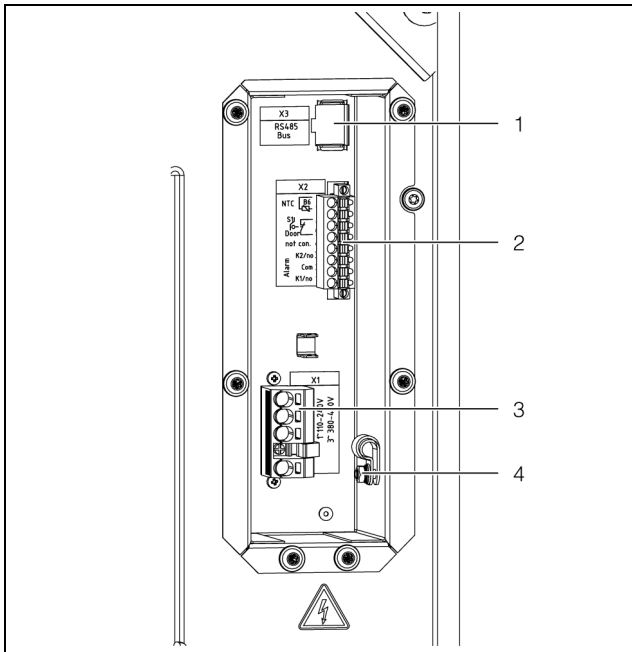

Fig. 34: Connections at rear
- The earth clamp may be used to contact the cable shielding with the enclosure inside the connection box (fig. 34, item 4).